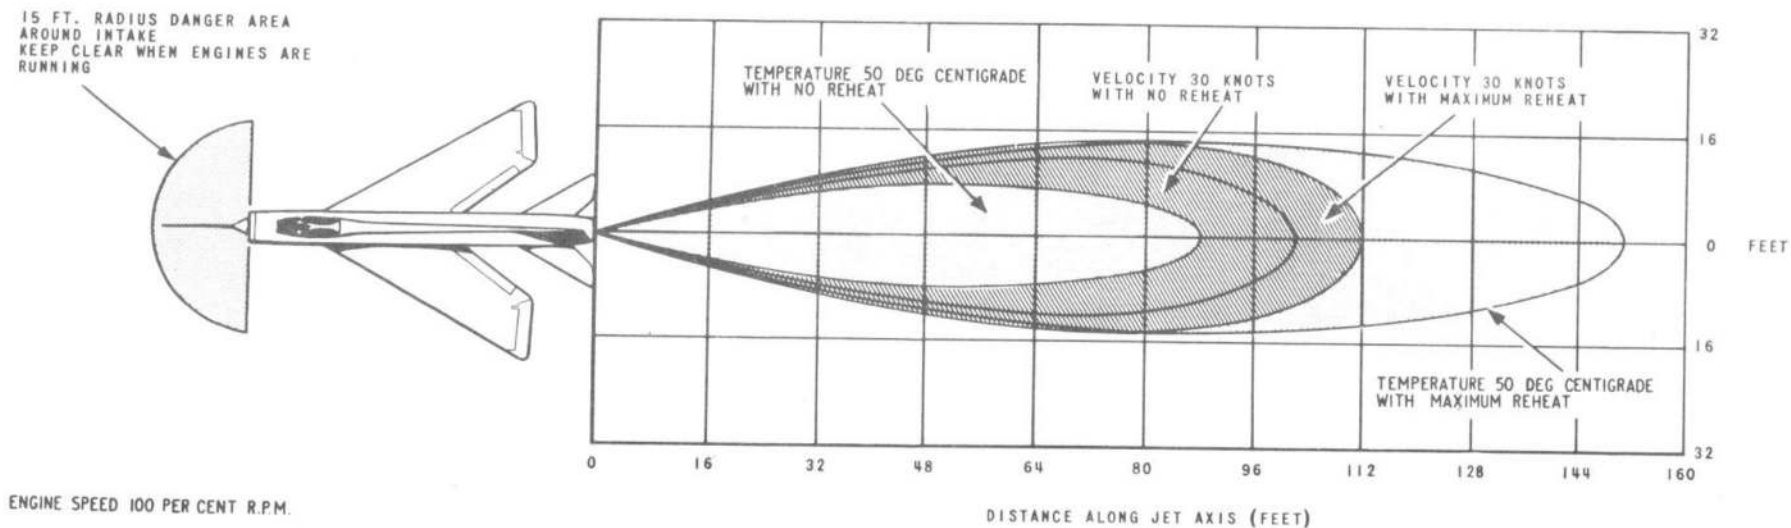

Fig.5. Danger areas during engine running
**Positioning the aircraft for ground running (fig.5 and 6)**